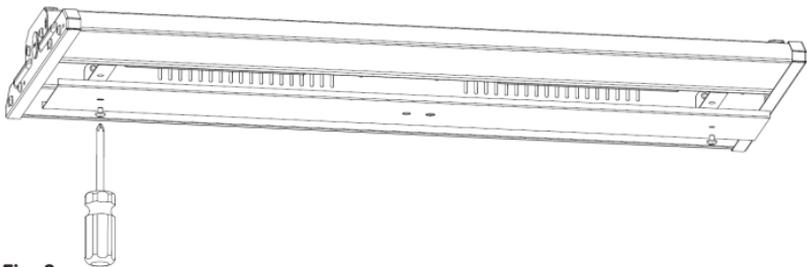

Fig. 3
- Remove the luminaire cover (see Fig. 3)